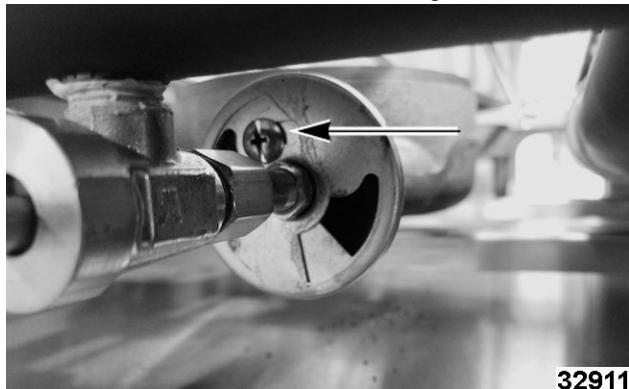

Fig. 134
2. Loosen screw on air shutter. Fig. 134